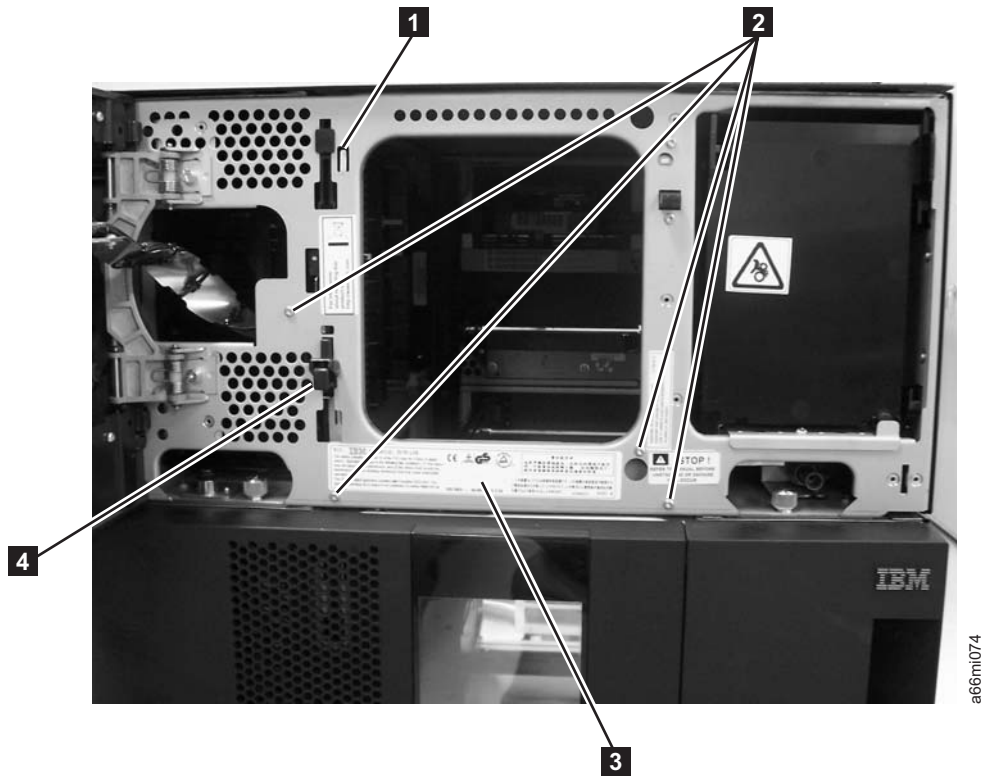

Figure 7-19. Agency Label placement
2. Place the Agency Label (**3** in Figure 7-19) on the enclosure frame underneath the Access Door opening.